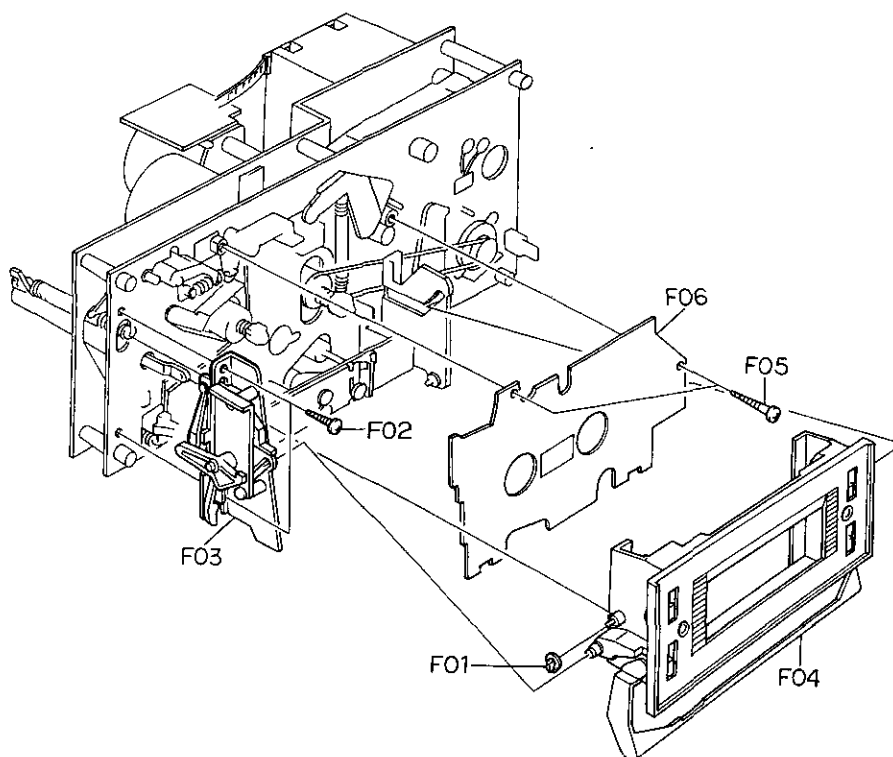

Fig. 2.7
Refer to Fig. 2.7.
- (1) Refer to Fig. 2.7. Remove Cassette Case Ass'y referring to item 2.19.
- (2) Remove F01, then disassemble F02 (Head Mount Base Ass'y).